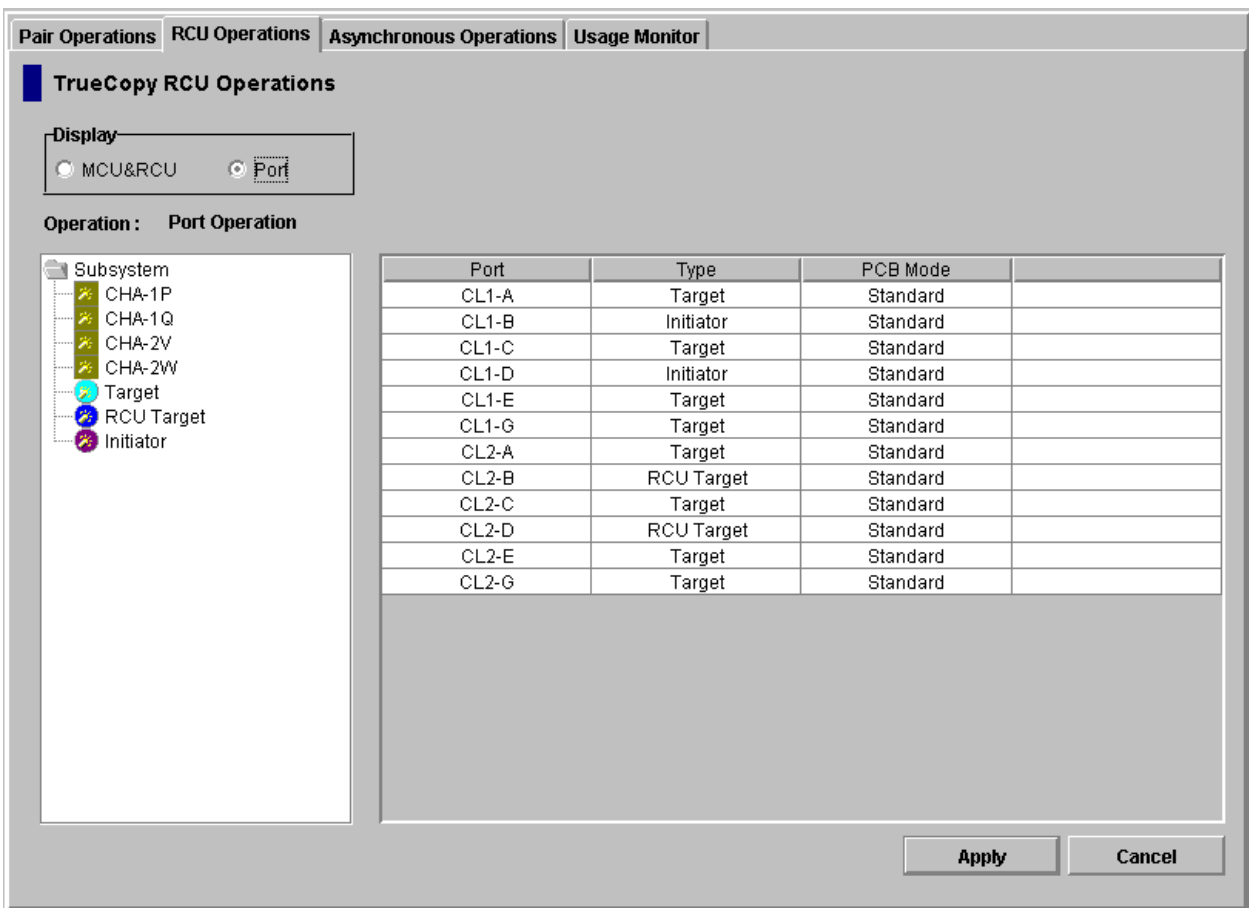

Figure 4.4 Port Display on RCU Operations Tab (standard-speed, one port per row)
Select the subsystem to display all port information. Select the desired channel adapter to display the port information for that adapter (see Figure 4.4). Select the desired port type to display the port information for that port type. You can select only one channel adapter or port type at a time. The port information includes:
- 1 port per row (standard speed) (DKC-F460I-8HSE, -8HLE) (see Figure 4.4).